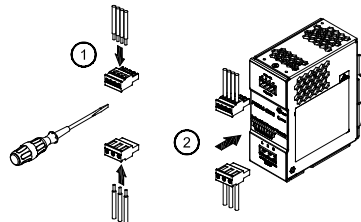
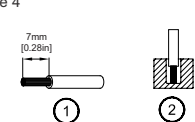

Figure 4
Figure 5
You can use flexible (stranded wire) or solid wire with cross section 0.52-3.3 mm² (AWG 20-12) and torque of 0.46Nm (4.05lb in). To secure reliable and shock proof connections, the stripping length should be 7 mm [0.28 in] (see Fig. 5 (1)). Please ensure that wires are fully inserted into the connecting terminals as shown in Fig. 5 (2). Caution: "Must tighten wire to terminal block (Fig. 4 (1)) before plugging into the terminal block connection (Fig. 4 (2))".